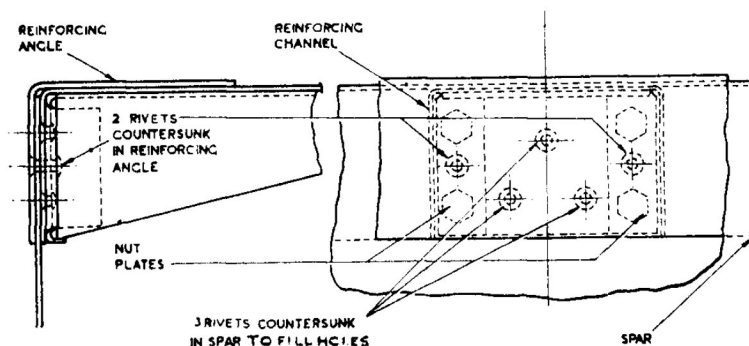

FIG. 2. CHANNEL AND ANGLE REINFORCEMENT
- (6) The three countersunk holes, through which attachment of 'V' brace and spar flange was attached are no longer used and should be blanked with 120 degree countersunk $\frac{1}{8}$ in. dia. rivets, AS.2230/406 (fig. 2).